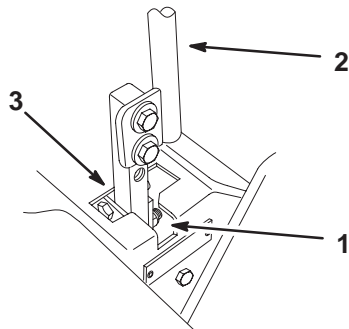

Figure 50
3. Move lever to the neutral position but **not locked** (Fig. 50).
5. Check where the control lever is relative to notch in console (Fig. 50). It should be centered allowing lever to pivot outward to the neutral lock position.
7. Apply slight rearward pressure on the motion control lever, turn the head of the adjustment bolt in the appropriate direction until the control lever is centered in neutral lock position (Fig. 50).